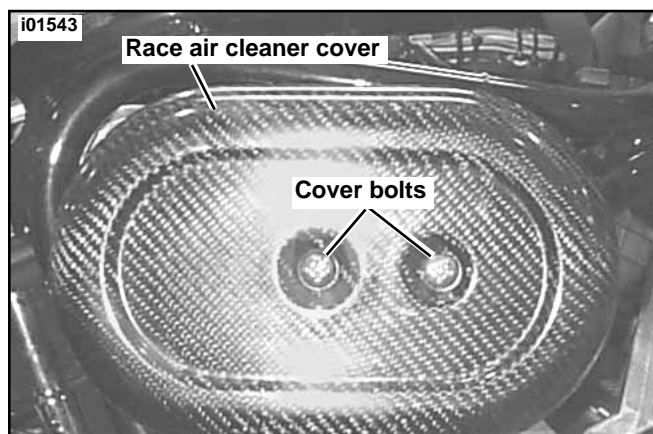

Figure 21. M2 or S3 Race Air Cleaner Cover
17. See Figure 21. Install air filter element and air cleaner cover using bolts. Tighten until snug.